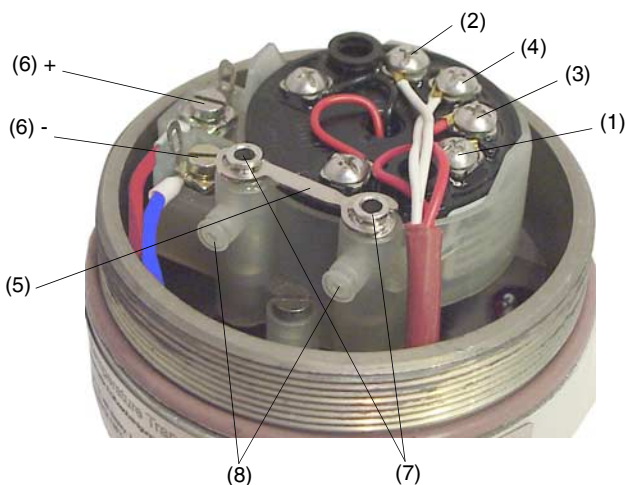

Fig. 4-4 Opened device **without** indicator
With devices without indicator must be put the short circuiting bridge (5) (see Fig. 4-4).